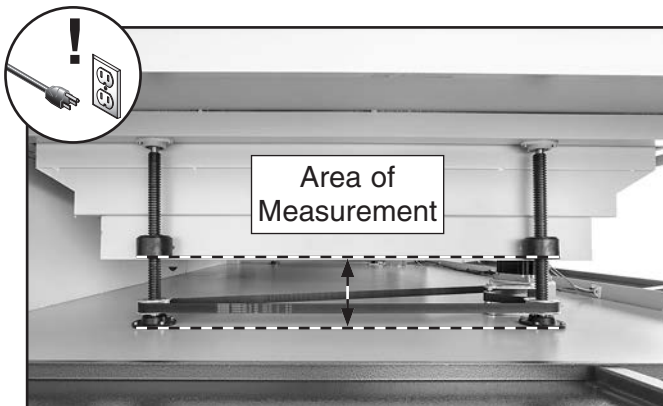

Figure 94. Leadscrew nut measurement.
3. Open front access door and lower side access door, then measure distance of each leadscrew nut from bottom of cabinet (see **Figure 94**).